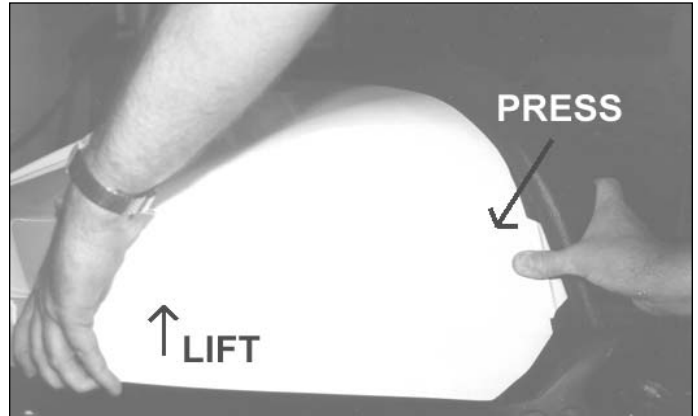

Figure 18 - First Tab on Front Body
4. Push in on front body where first tab engages console, while lifting front edge of body with other hand. Tab will snap out of console, Figure 18.